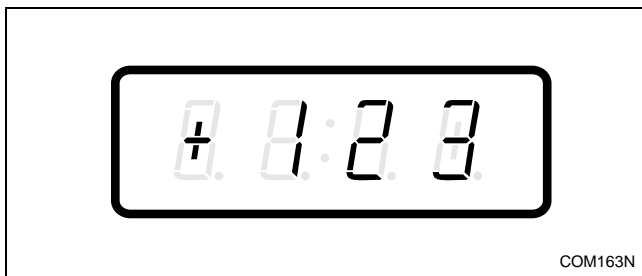

Figure 222
3. Press the DELICATES (+) or the COLD (-) keypad to scroll through the programmable options until “+123” appears in the VFD. Refer to *Figure 222*.